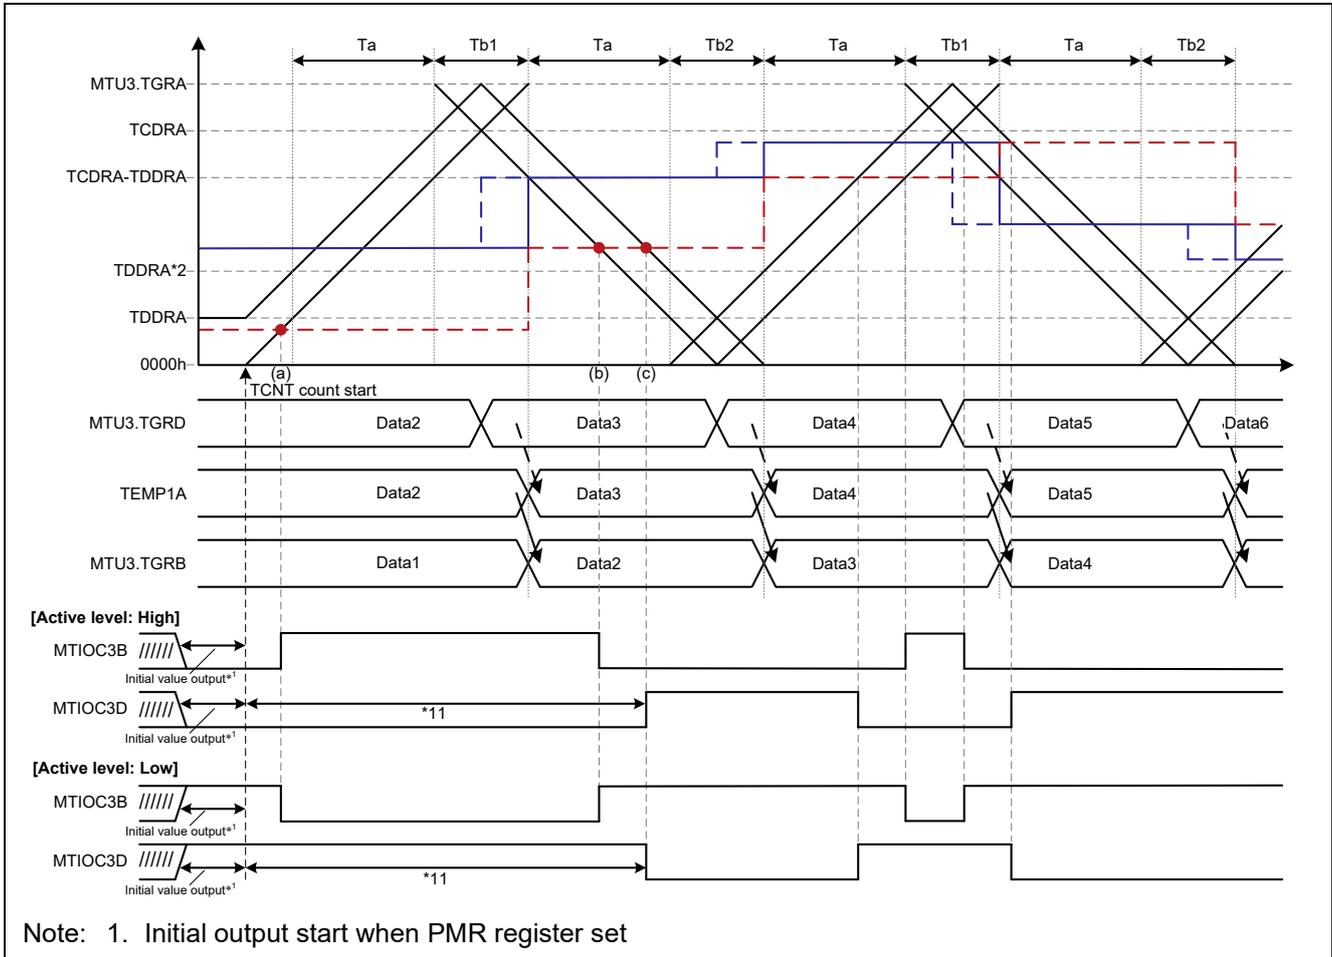

**Figure 1.63 Complementary PWM Mode 2 Operation Example
- [Operation example 2] Figure 1.63, Complementary PWM Mode 2, Output Start: Trough, Ta Interval Overwrite, caution 11
Figure 1.63 shows an operation example of buffer overwrite in the Ta interval in complementary PWM mode 2. Except for the difference in the buffer overwrite timing, the operation is the same as that shown in Figure 1.62.